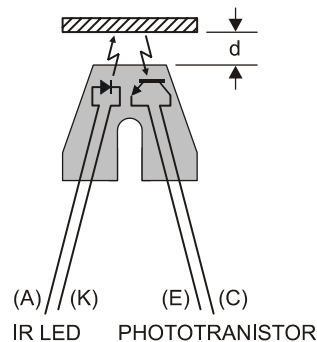

Figure 4-1
The QRB1114 shown in Figure 4-1 is an opto-reflective switch. The actual switching circuit is a phototransistor. Light hitting the transistor causes a current flow in the base-emitter, which in turn causes an amplified current flow in the collector-emitter. The package also contains an infrared LED to use as a light source (emitter). The LED emits infrared light (IR) not visible to the human eye, and the phototransistor is most sensitive to this wavelength of light.